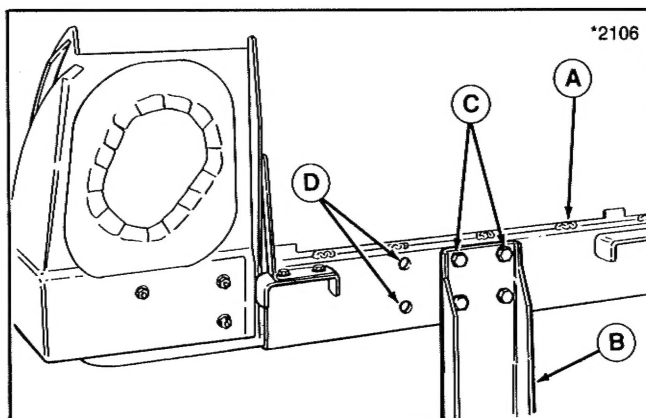

Figure 3.
5. Install horizontal bag support (A, figure 3) to upright (B) with four 3/8-16 x 7/8 capscrews (C) and flange locknuts. Install capscrews from the front and tighten when upright and support are square. Note that the open set of holes (D) is toward the discharge side of mower.